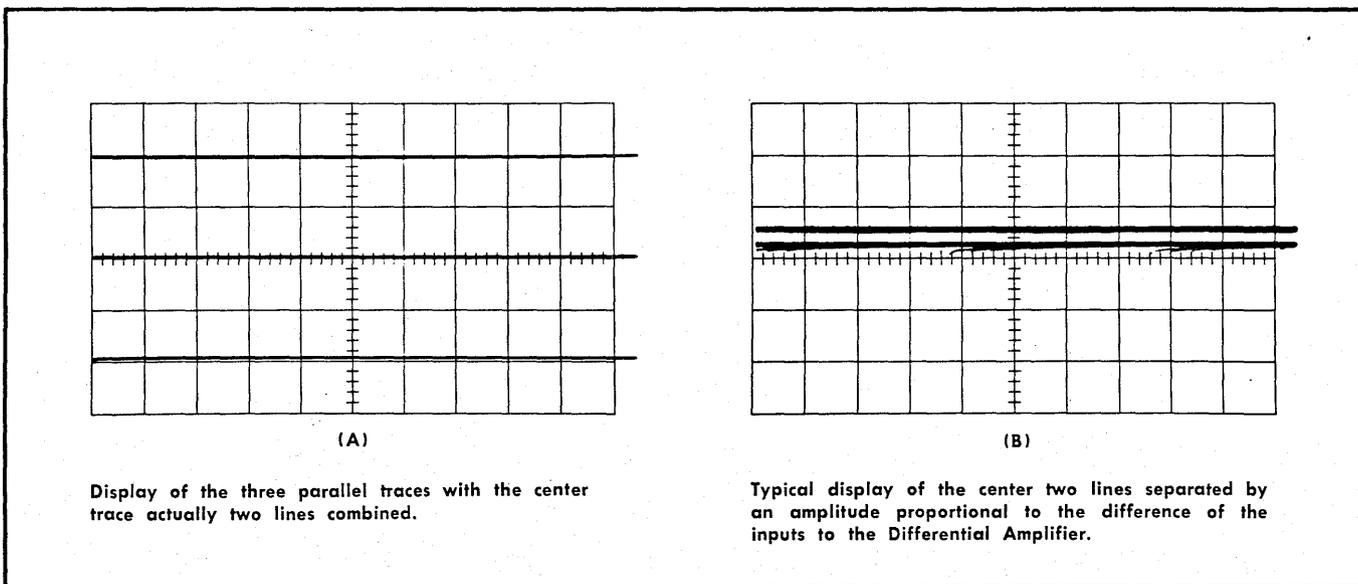

Fig. 5-4. Checking the AMPLITUDE CALIBRATOR accuracy.
f. Check—There should be 3 or 4 parallel lines on the test oscilloscope with the center line or lines showing the difference in amplitude of the two signals that are applied to the two inputs of the Differential Amplifier. See Fig. 5-4.